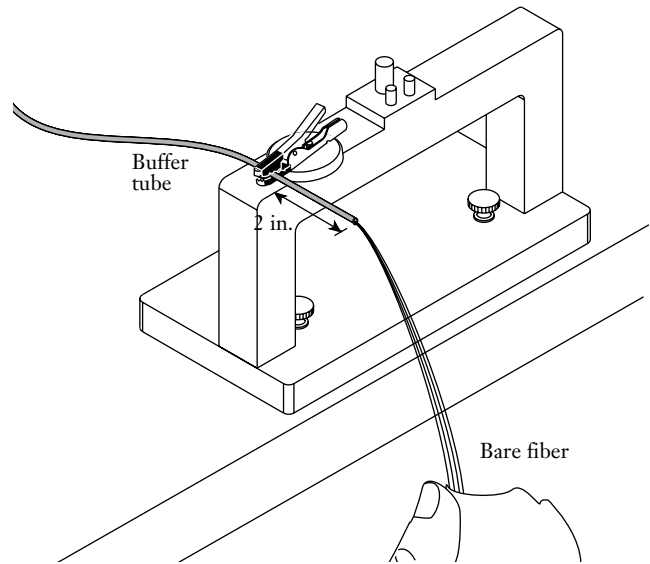

Figure 9
**6.3** Clip the buffer tube on the left side of the platform with about 2 inches protruding towards you (see Figure 9).
**6.5** Use a clean lint free tissue to thoroughly dry each fiber (Figure 9).